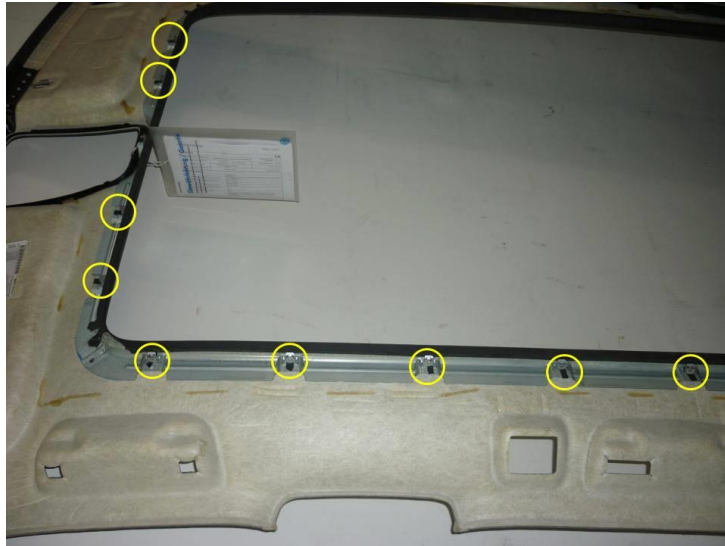

Figure 1. Location of the headliner to sunroof frame clips.
2. Remove the headliner. The clips shown in the illustration will need webbing adhesive tape (D 004350A2) (Figure 1).